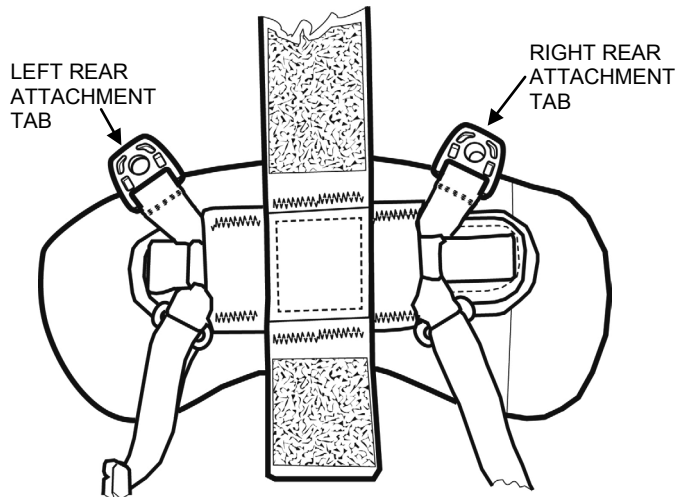

Figure 9. Built-in Nape Pad Centered and Joined with Ballistic Nape Pad.
3. Continue to slide the strap through the elastic insert on the left side of the ballistic nape pad (Figure 9) until the attachment tabs are centered.